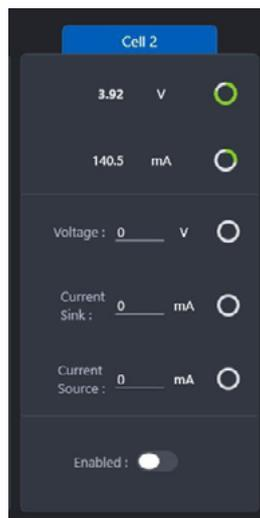

Figure 21: Cell Panel
- The periodically queried cell voltage and current are displayed in the area shown in Figure 21.